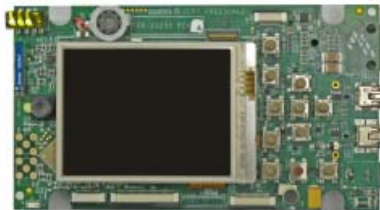

Figure 3.6 Connect Personality Board to Power Supply
1. Connect the regulated 5V power supply to the appropriate power adapter. Plug the 5V line into the J12 (5V POWER JACK) connector on the Personality board. See Figure 3.6. Turn the 5V power supply ON.